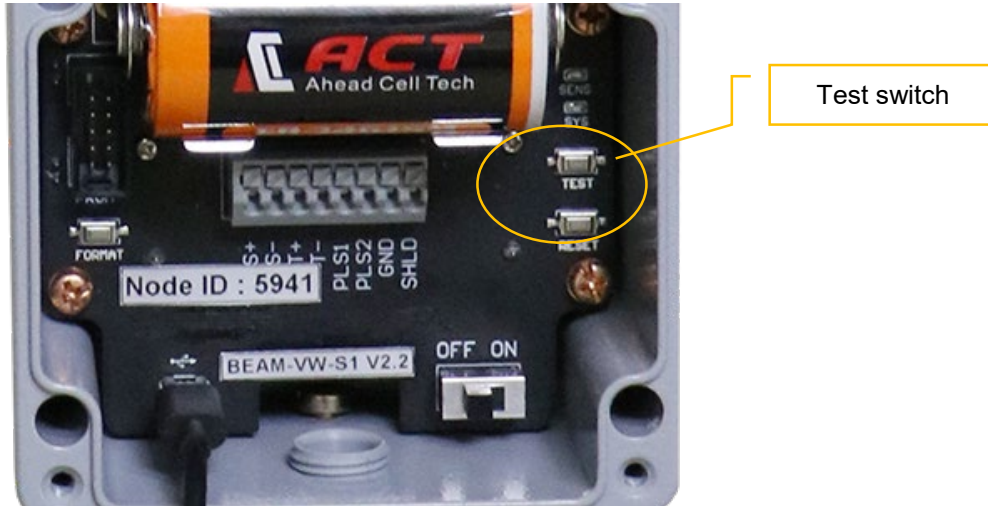

Figure 5-15
7. To test, press the "TEST" button (as shown in figure 5-15). The node will immediately send a reading to the gateway.